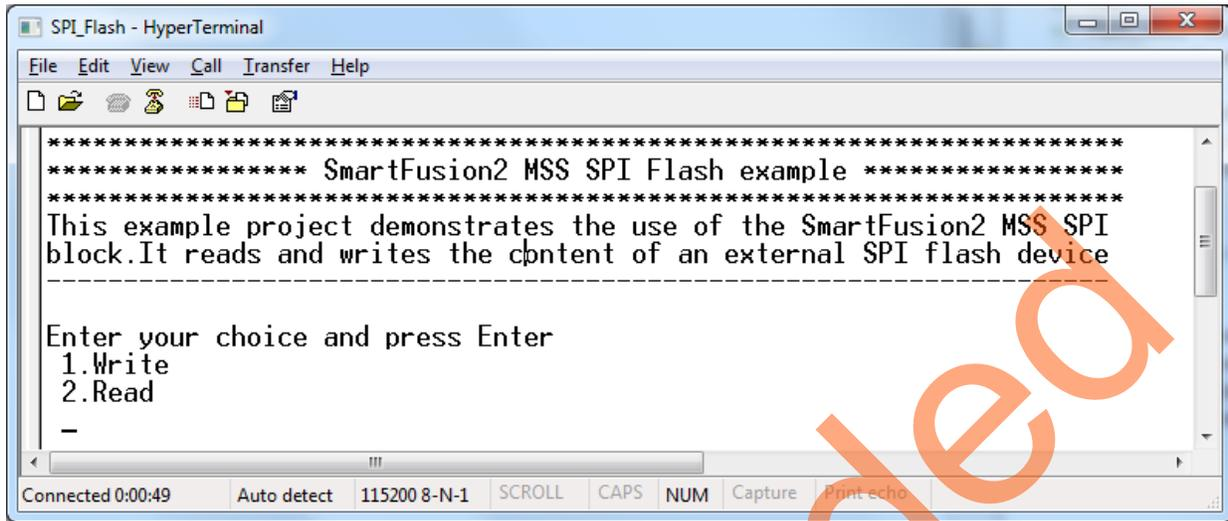

Figure 39 • HyperTerminal Window
3. On successful operation, the HyperTerminal window displays a message as shown in Figure 39.